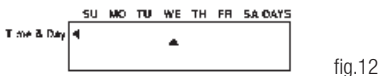

fig.12
- Using the **↓↑** buttons to the current day (fig. 12).